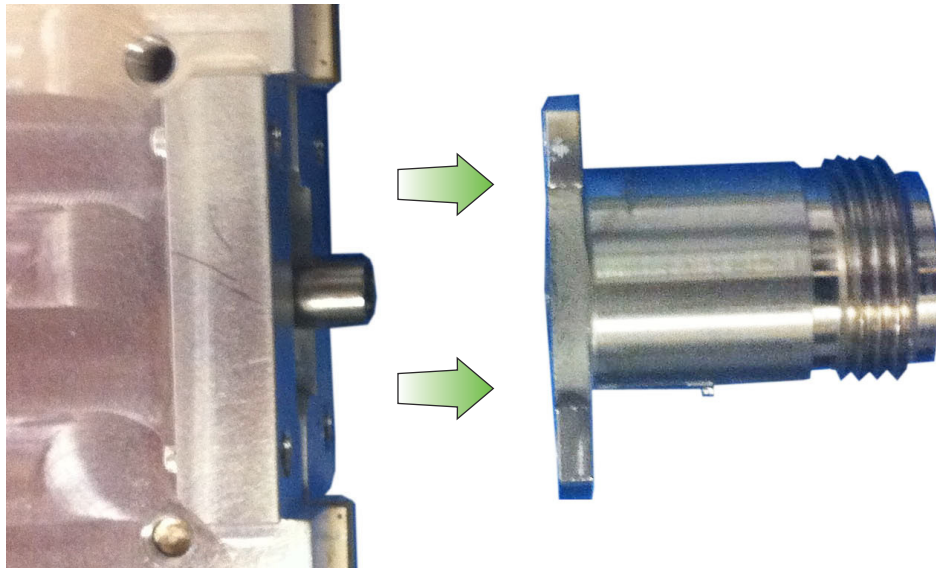

Figure 6-7. Remove N Connector from SPA or MB/VNA
6. Disconnect the N connector from the SPA or MB/VNA by gently pulling the N connector away from the SPA or MB/VNA (Figure 6-7).